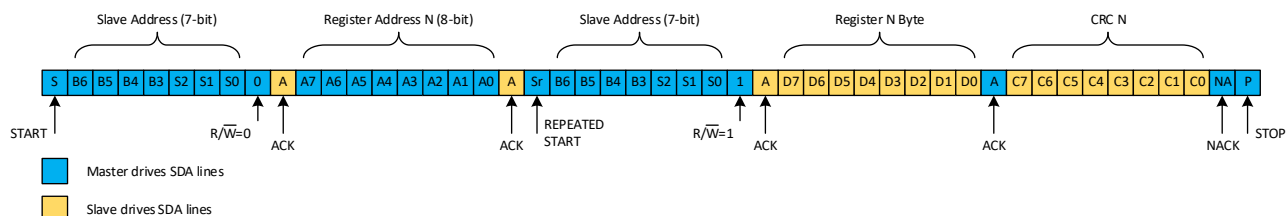

Figure 25: I²C Read Single with CRCEN = 1
- If CRC is enabled (CRCEN = 1), the sensor sends the CRC8 value after each register value (Figure 25).